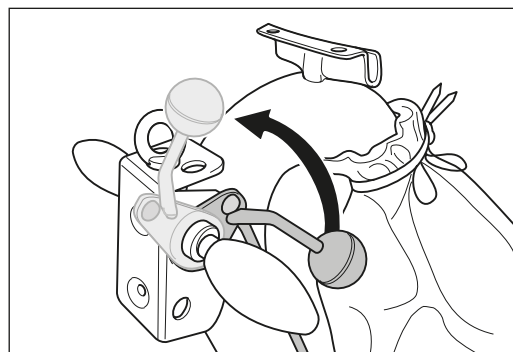

Fig. 68 Lift the sanding drum off the floor by turning the lowering lever at the handle upwards.
- 1 Lift the sanding drum off the floor by turning the lowering lever at the handle upwards (fig. 68).